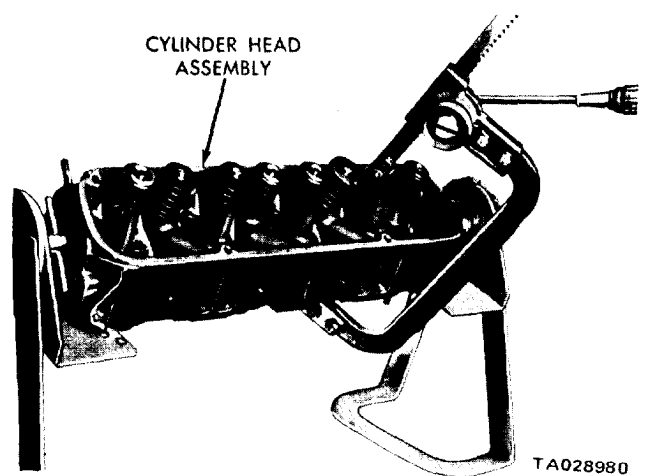

Figure 11-17. Compressing Valve Spring.
(1) Compress the valve springs using a valve spring compressor (figure 11-17).
(2) Remove the valve retaining locks, spring retainers, step cup, seals, and springs.
(3) Before removing the valves, remove any burrs from the valve stem lock grooves to prevent damage to the valve guide.